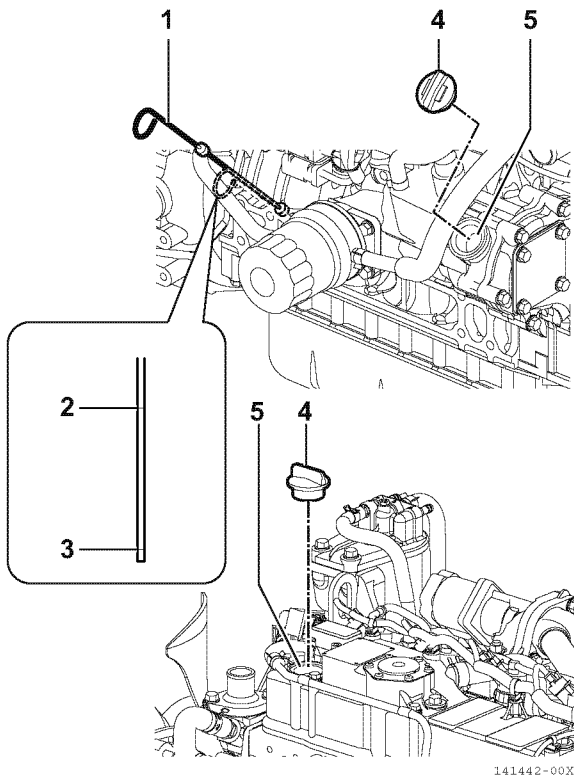

Figure 4-26
2. Remove dipstick (1, **Figure 4-26**) and wipe with clean cloth.
4. Remove dipstick. The oil level should be between upper (2, **Figure 4-26**) and lower (3, **Figure 4-26**) lines on the dipstick.
2. Remove oil cap (4, **Figure 4-26**).
3. Add indicated amount of engine oil at the top or side engine oil filler port (5, **Figure 4-26**).
6. Reinstall oil cap (4, **Figure 4-26**) and hand-tighten. Over-tightening may damage the cap.